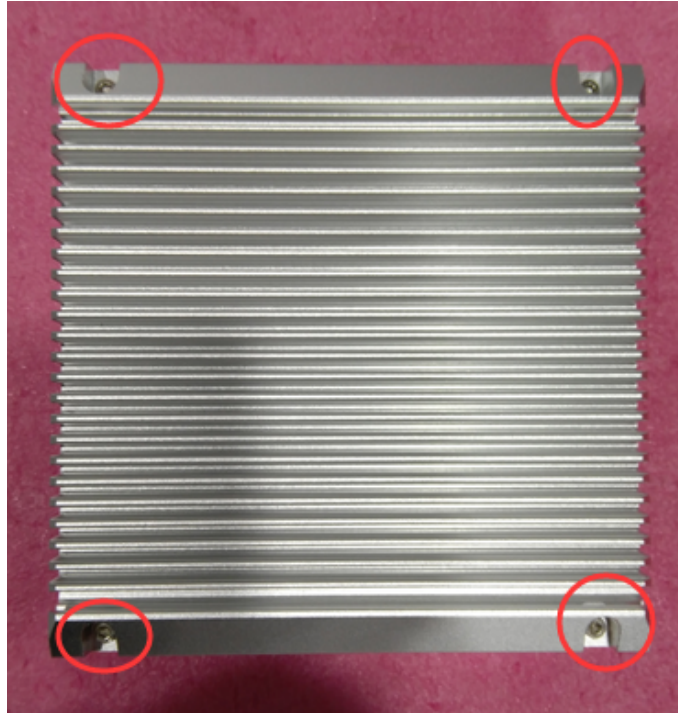

Figure 2-1: Remove the metal back cover from retention screws.
Step 2: Unfasten the 4 silver retention screws beneath the device. (Figure 2-1)